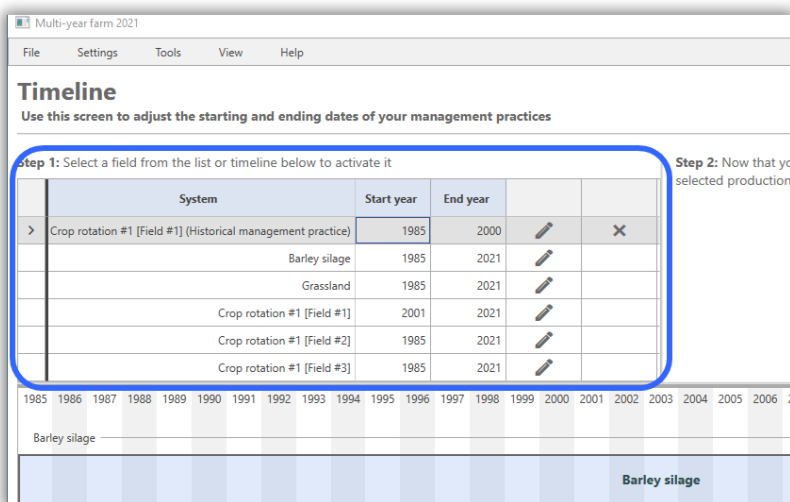

Figure 11: Adjusting the start and end year for productions systems on the timeline screen
3. We will set the end year of this historical management practice to the year **2000**. To adjust the we use the numeric up/down buttons within the cell (Figure 11).